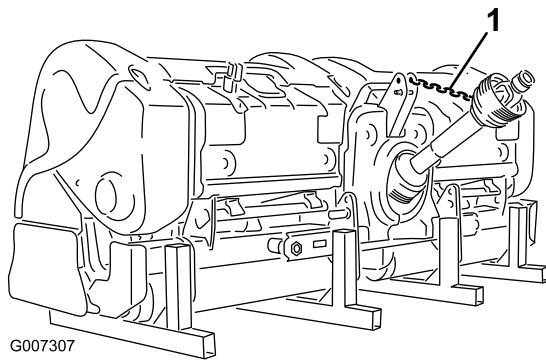

Figure 44
9. Support the PTO driveshaft by connecting the PTO tether to the PTO shield to prevent the driveshaft from contacting the ground (Figure 44).